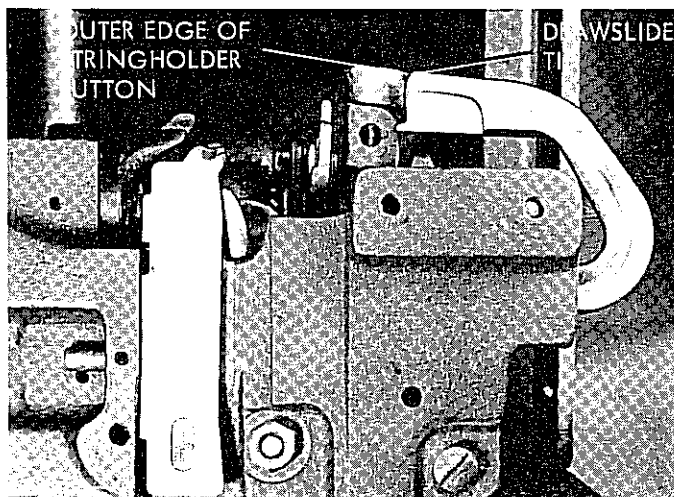

Figure 38. Aligning Drawslide with Stringholder Button
3. Manually rotate pulley in clockwise direction until tying machine has completed its tying cycle and tip of drawslide is aligned with outer edge of stringholder button (figure 38).